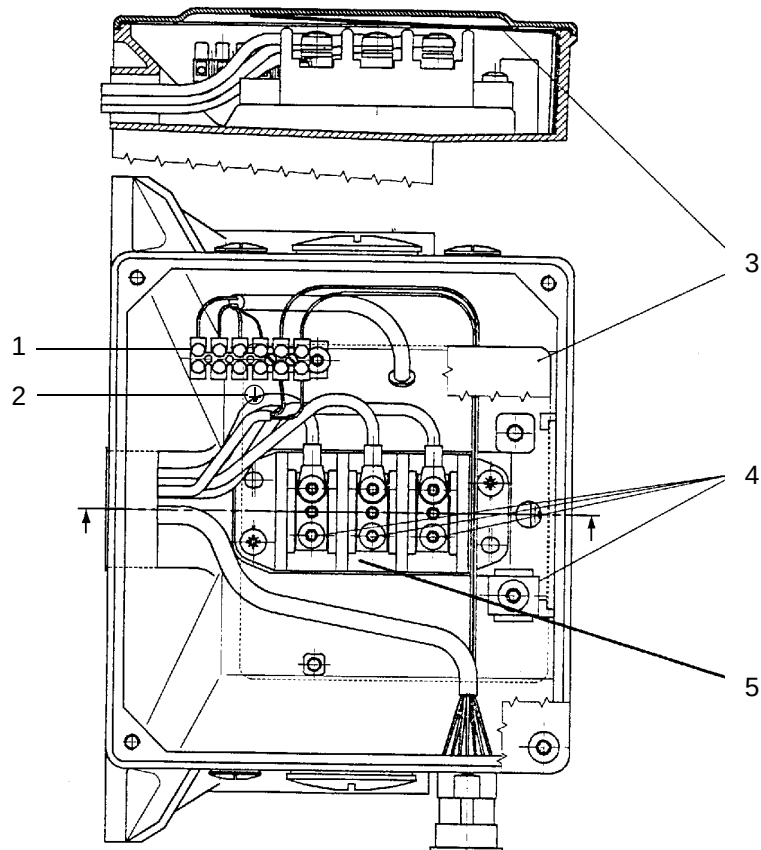

Fig. 5 Electrical connections
Electric shock hazard! The insulating foil in the terminal box Fig. 5 serves to prevent arcing to the cover and must therefore not be removed!
- Unscrew the cover of the terminal box and disconnect the motor leads and temperature sensor leads from the terminal block (Fig. 5).